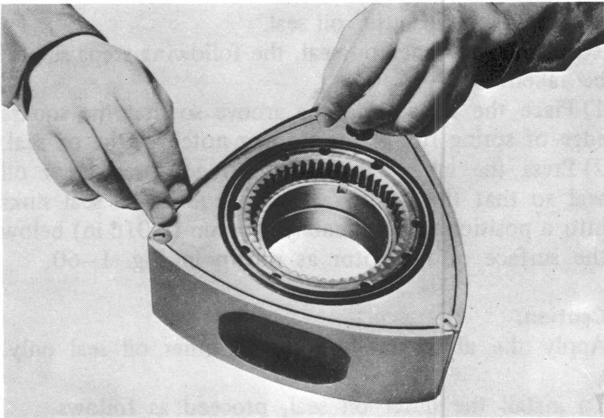

Fig. 1-61 Installing side seal
4. Fit the side seal springs and side seals into their respective grooves as shown in Fig. 1-61.